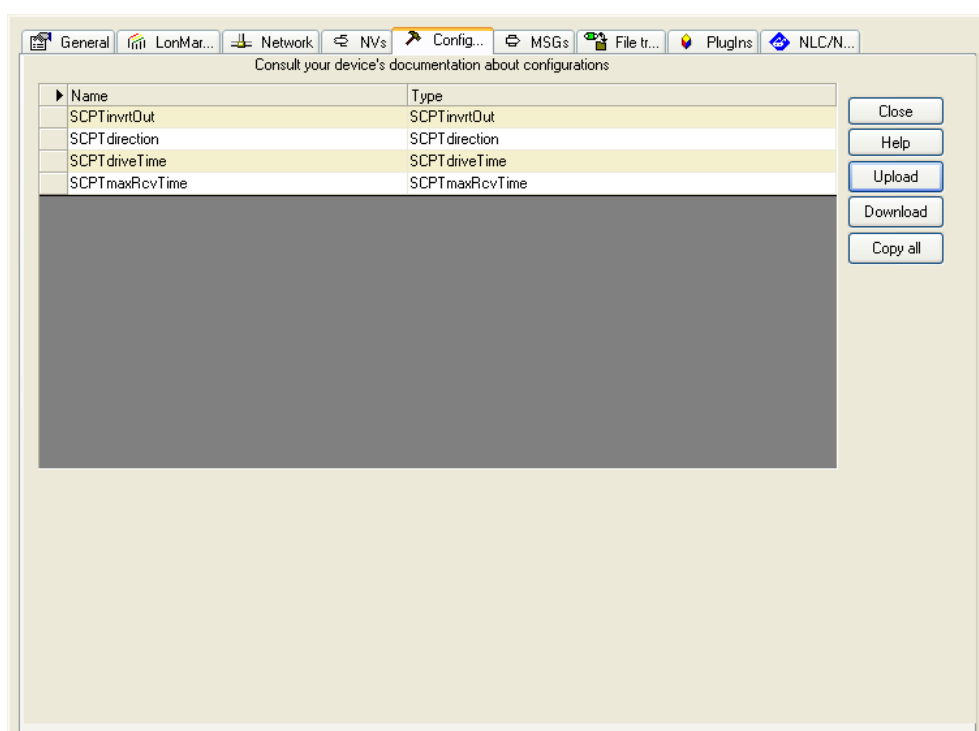

Figure 107: Configuration Tab for Configuration Properties in NL220.
2. Press the **Upload** button on the Configuration tab of the device properties (see Figure 107).